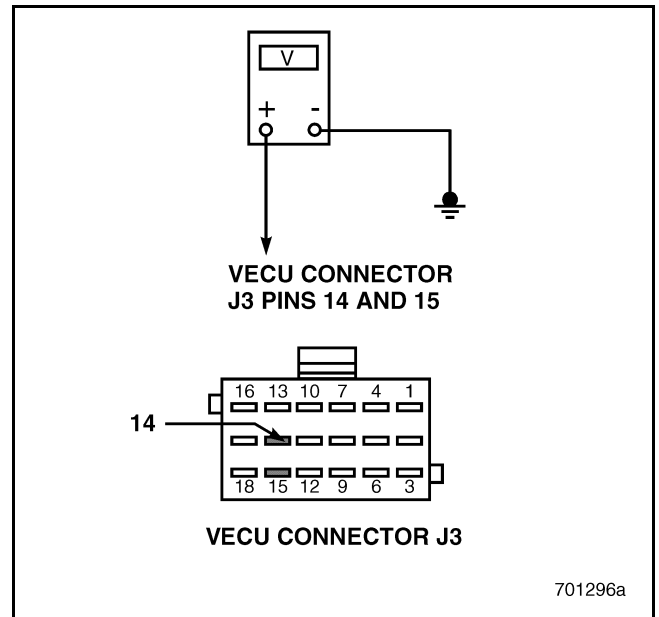

Figure 632
4. Measure the voltage between Vehicle Electronic Control Unit (VECU) connector J3 pins 14 and 15 and a good ground (see Figure 632).